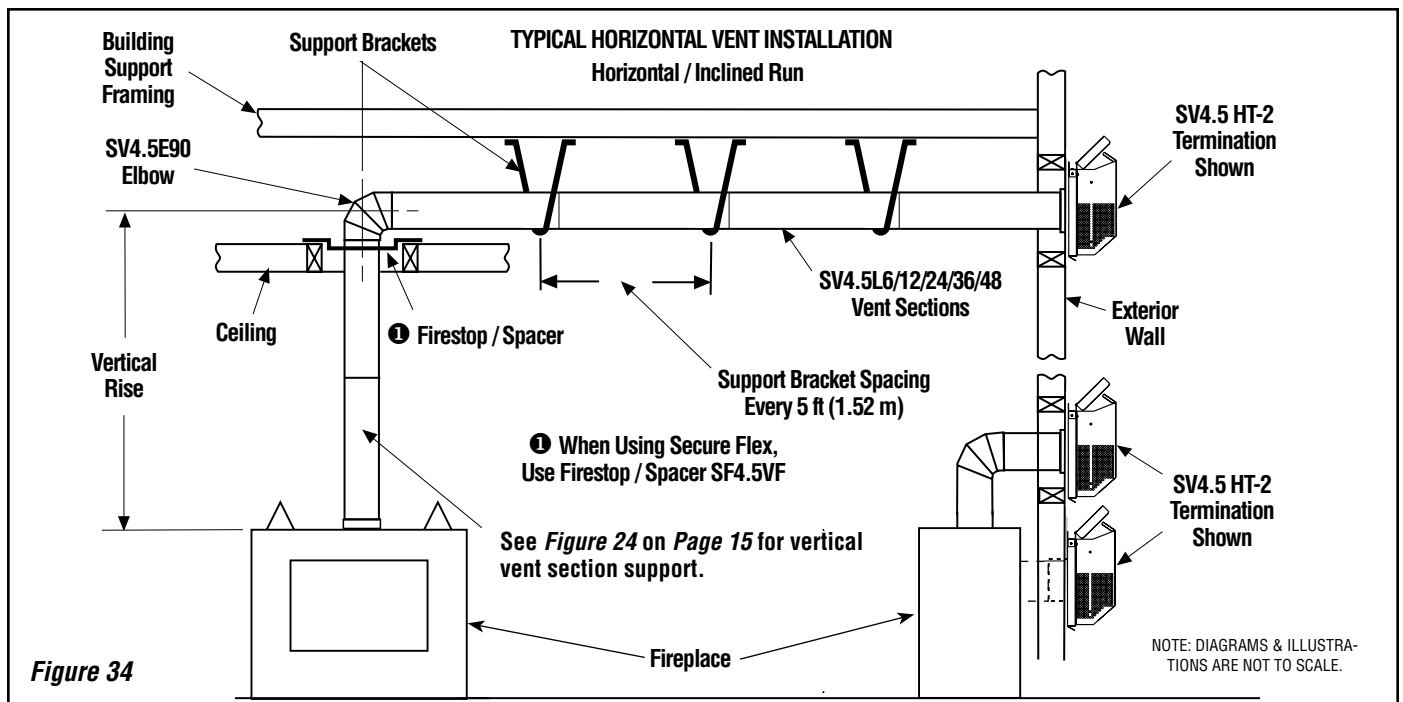

Figure 34
I. Continue installation of horizontal/inclined sections - Continue with the installation of the straight vent sections in horizontal/inclined run as described in **Step E**. Install support straps every 5 ft. (1.52 m) along horizontal/inclined vent runs using conventional plumber's tape. See **Figure 34**. **It is very important that the horizontal/inclined run be maintained in a straight (no dips) and recommended to be in a slightly elevated plane, in a direction away from the fireplace of 1/4" rise per foot (20 mm per meter) which is ideal,** though rise per foot run ratios that are smaller are acceptable all the way down to at or near level.